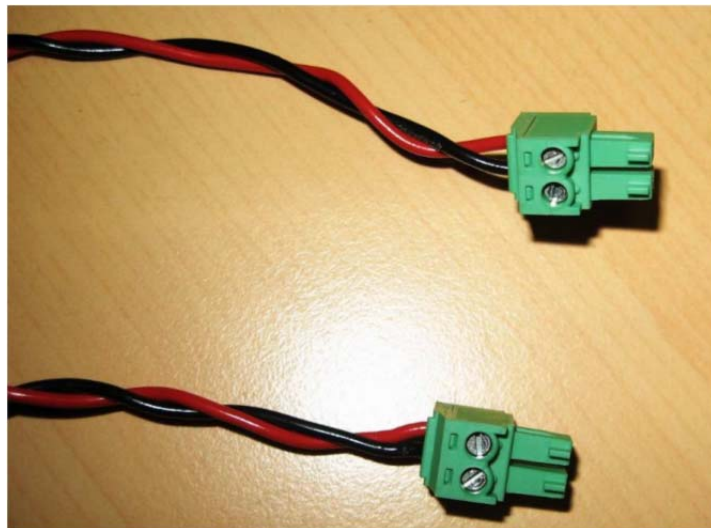
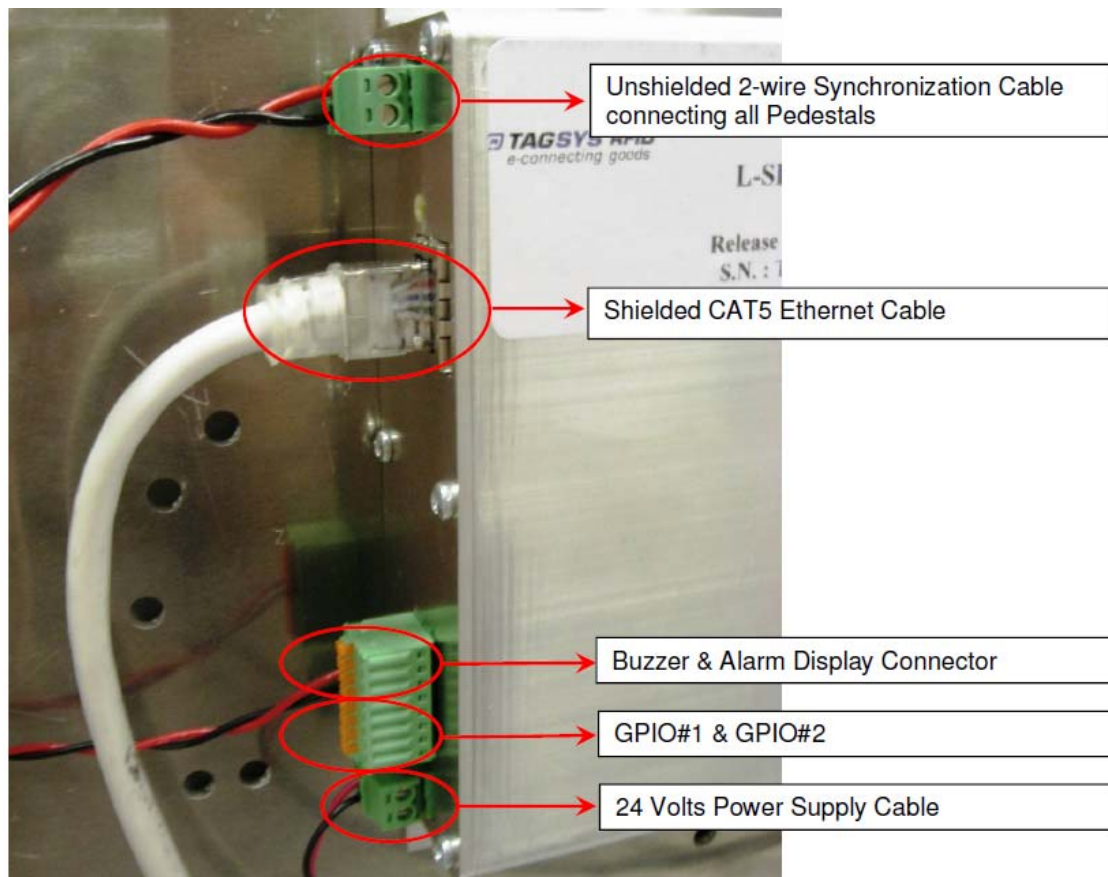

Figure 5.3: Detailed Wire Synchronization Assembly
Figure 5.4: LSP3A Clear PEM Connectors & Cables Location
First prepare a cable of appropriate length to connect 2 consecutive Electronics as shown in Figure 5.3 and Figure 5.4
Then unscrew the 4 screws to open the bottom plastic cover panel of each pedestal forming the aisle to gain access to the Product Electronic Module and connect the top 2-way connector as shown in Figure 5.4 thereafter.
2. Connect all pedestals Synchronization to the Synchronization I/O as shown on Figure 5.4.